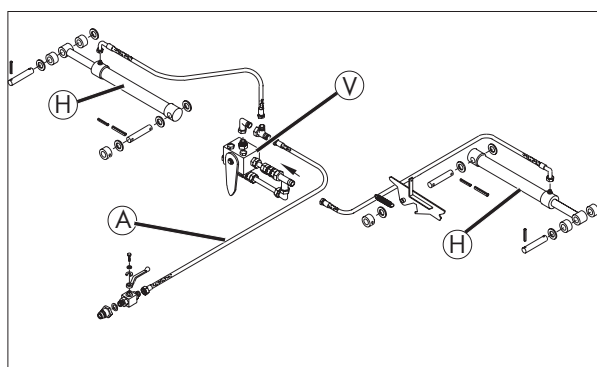

Fig. 3-15
Connect the hoses to hydraulic cylinders (H). Fix the hydraulic hoses to the hydraulic cylinder by means of cable binders (fig. 3-15).
Connect the hydraulic hoses to control valve (V) (fig. 3-15).